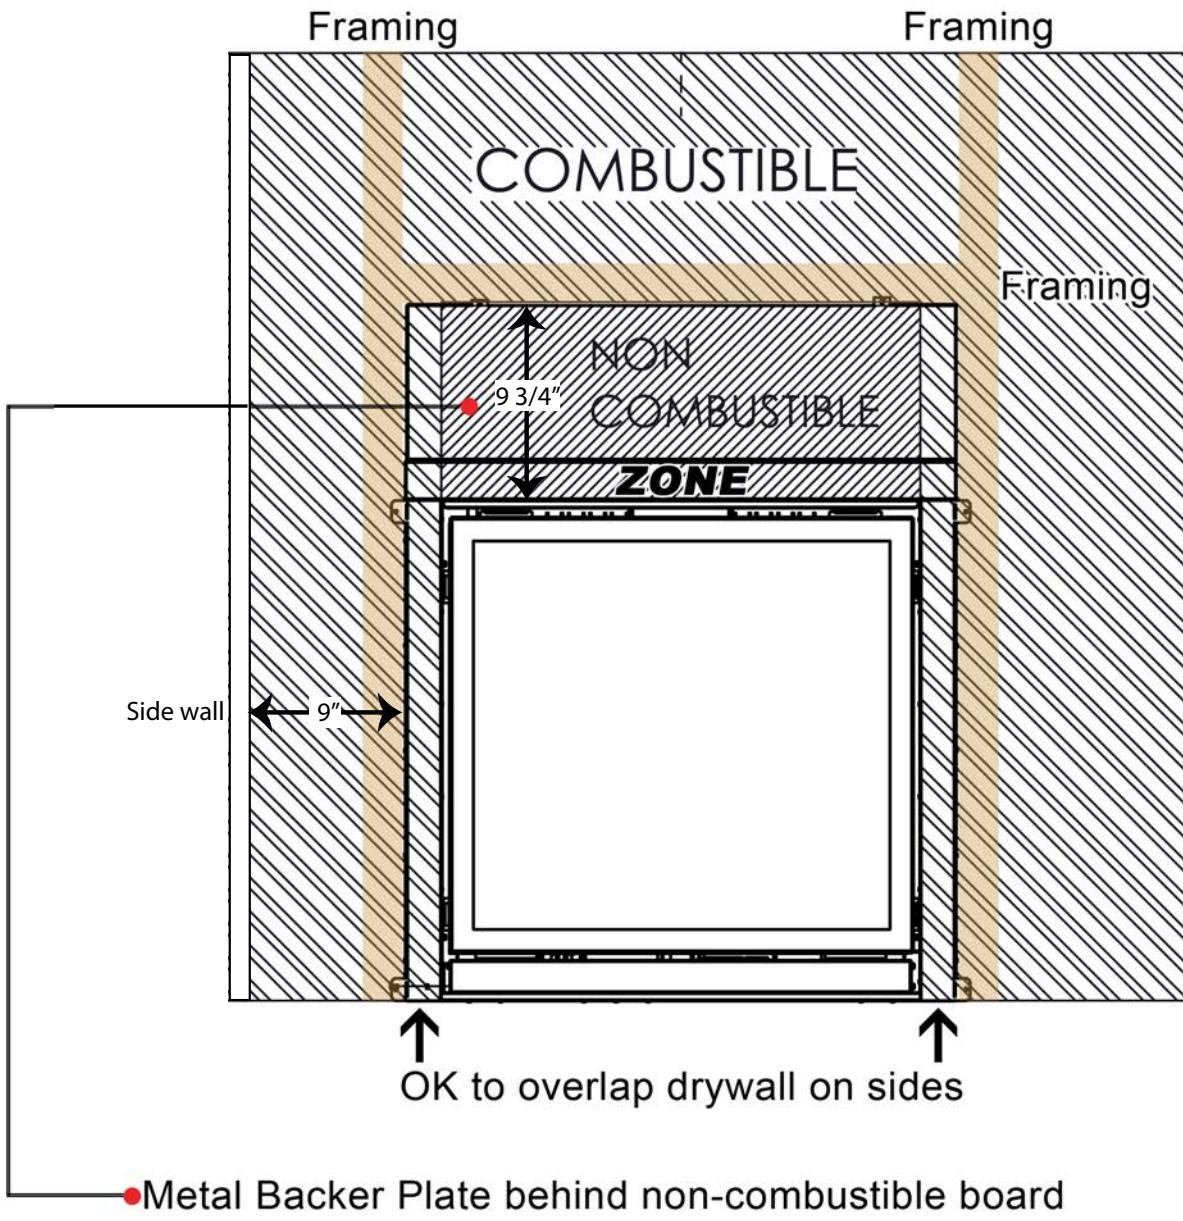

Figure 19: Non-Combustible Zone
**MANTLE:** It is not necessary to install a mantle, but if one is desired the guidelines as shown in Figure 19. Side mantle clearence should be no less then the distance from the top of the unit to the bottom on the top portion of the mantle.